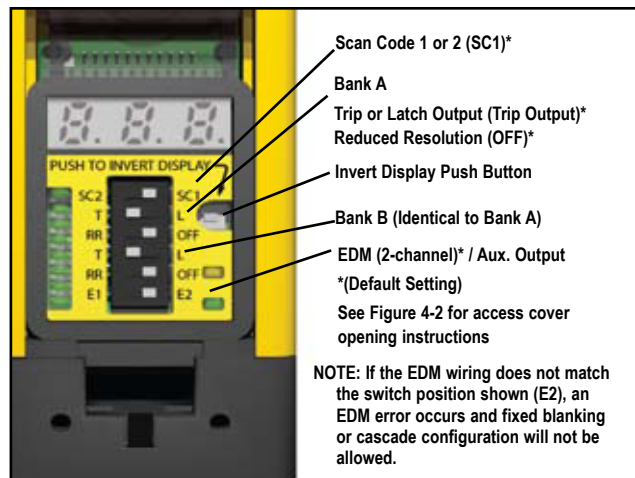

Figure 4-1. EZ-SCREEN configuration switches (receiver shown)
If not previously configured, System settings are made on the configuration panels located on each sensor, behind the access cover. The access cover is opened by first removing the factory-installed security plate with the security hex wrench provided. It is recommended that the security plate be re-installed after any configuration changes. See Figure 4-1.
**Trip or Latch Output operation** is selected on two DIP switches in the receiver configuration port; see Figure 4-1. Both switches must be set to the same setting. If they have different settings, an error code will be displayed.
**External Device Monitoring (EDM)/Aux. Output:** EDM mode is selected via a 2-position DIP switch in the receiver configuration port; see Figure 4-1. For 1-Channel Monitoring, set the EDM DIP switch to the E1 position. For 2-Channel Monitoring or No Monitoring, set the switch to the E2 position. See Section 3.5.3 for more information. When 1-Channel Monitoring is selected, an aux. output is available; see Section 1.4.3.